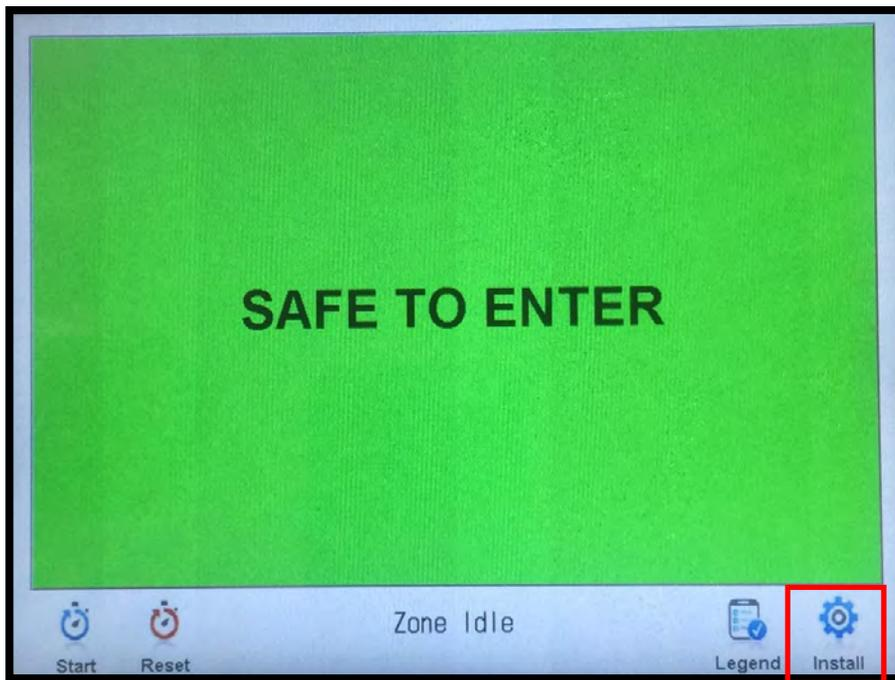

FIGURE 13
6.1.2 To access the “Configuration” screen, press the “Install” button on the bottom right corner of the Touchscreen Controller (Figure 13).